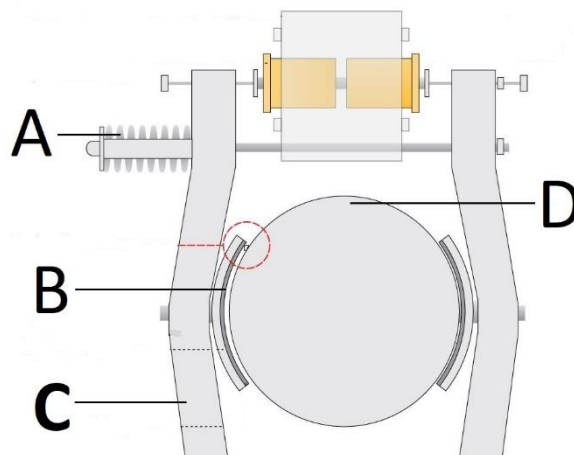

FIGURE 1
- 2.1 FIGURE 1 below shows a sketch of a brake system. Name the brake system shown. (1)
- 2.2 Name the parts indicated in the FIGURE 1 by writing only the answer next to the letter (A–D) in the ANSWER BOOK.